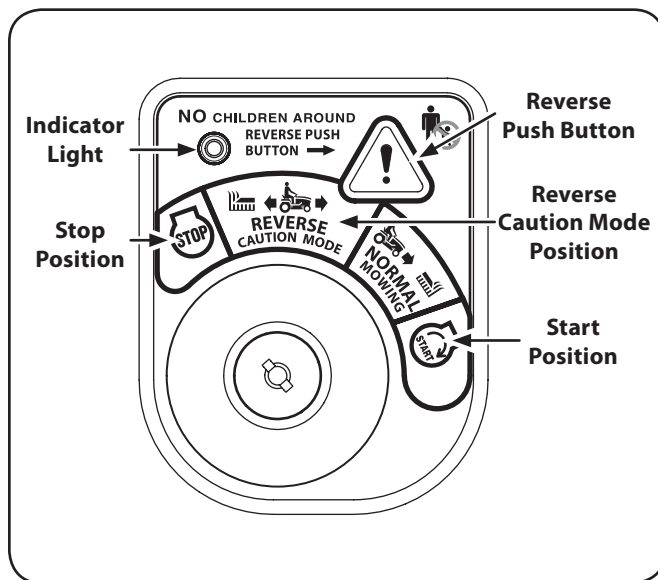

Figure 5-1
2. Turn the key from the NORMAL MOWING (Green) position to the REVERSE CAUTION MODE (Yellow) position of the key switch module. See Fig. 5-1.
3. Press the REVERSE PUSH BUTTON (Orange, Triangular Button) at the top, right corner of the key switch module. The red indicator light at the top, left corner of the key switch module will be ON while activated. See Fig. 5-1.